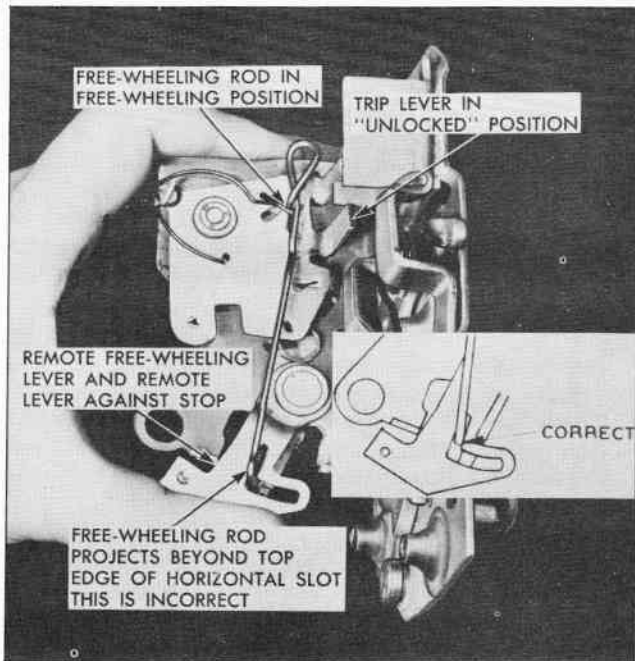

Fig. 5 Rear Door Lock in Unlocked Position
3. With trip lever in the up (unlocked) position and free-wheeling rod in free-wheeling position, actuate both remote free-wheeling lever and remote lever against stop on lock frame, as shown in Fig. 5.
4. While holding levers against the stop, observe position of lower end of free-wheeling rod in relation to horizontal slot in remote free-wheeling lever (See Fig. 5). If any portion of rod projects beyond top surface of slot, lock is defective and should be repaired as follows: